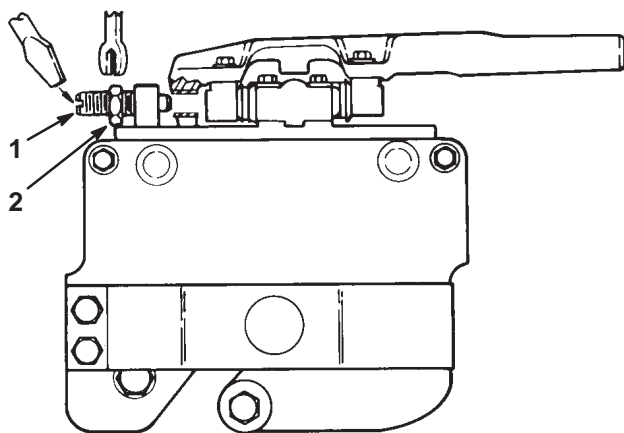
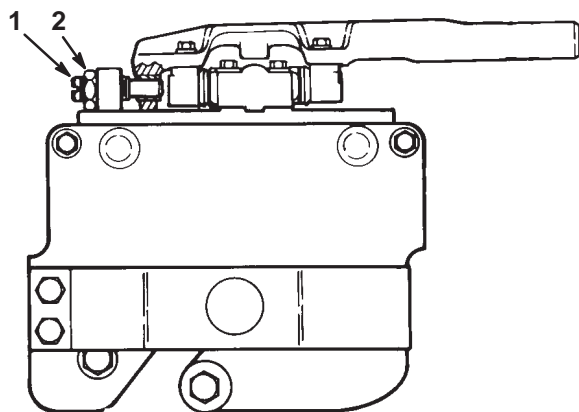

Figure 14
Figure 15
1. Start engine and lower the cutting units onto a flat surface such as a piece of 3/4 in. or 1 in. plywood (at least 20 in. x 30 in. in size). Stop engine and remove key from switch. Lock cutting units in the fixed position, by loosening the jam nut on lockout pin (Fig. 14) and screwing pin into hole in pivot arm (Fig. 15). Tighten nut to secure lockout. Raise the front rollers up so they do not contact the flat surface.
5. Loosen lockout pin so cutting unit can float freely (Fig. 14).
1. Lock each cutting unit in the fixed position (Refer to Cutting Unit Orientation, Fig. 15). Set the reel to bedknife adjustment and height-of-cut adjustment.